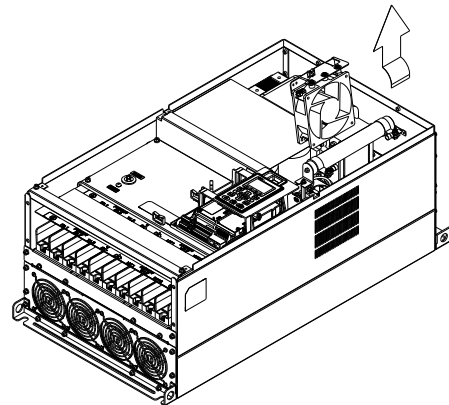

Figure 4
3. Loosen the screws and remove the fan. (figure 3 and figure 4) Screw torque: 12–15 kg-cm / [10.4–13.0 lb-in.] / [1.2–1.5 Nm]